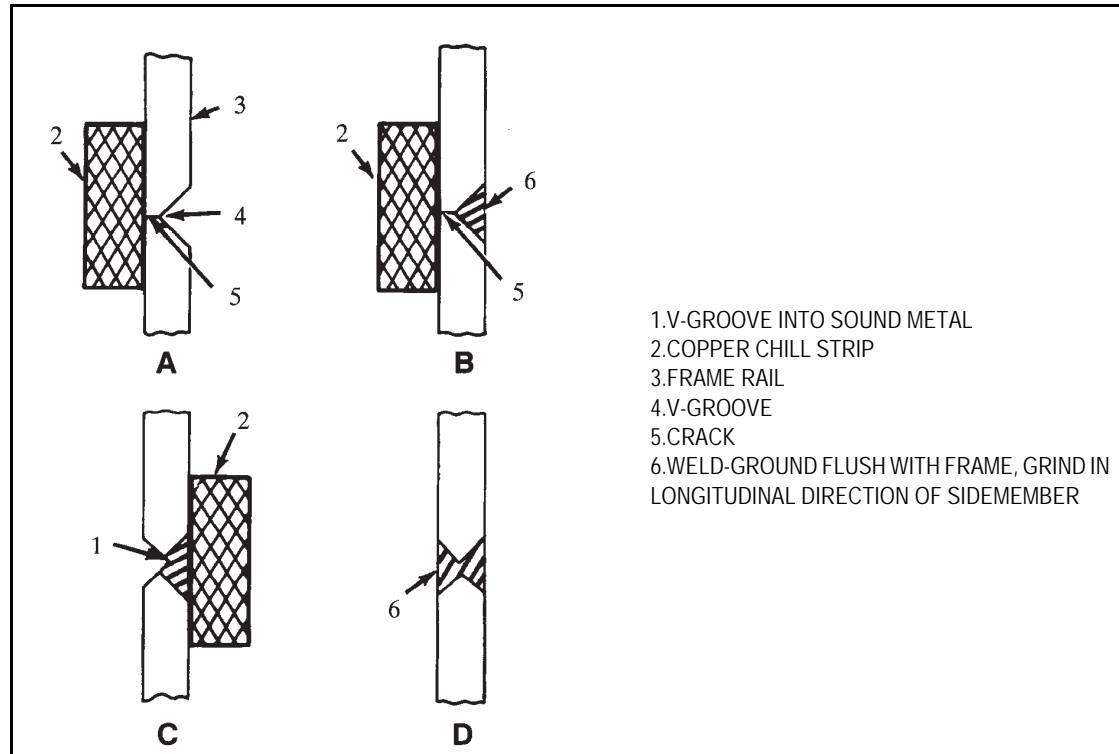

Figure 2.3 Use of Chill Strip
5. Grind smooth and flush with surrounding sidemember material. Grind the weld in a direction that is 90° to crack direction (Figure 2.3 D).
The SMAW and the GMAW methods are preferred for welding the HSLA frames. The use of low hydrogen electrodes is recommended. Refer to Table 2.1 for selection of recommended electrodes and wires, or refer to A.W.S. A.5 standard available from www.aws.org for equivalent strength electrodes, wires or rods and power leads to be used in the welding methods. The double V-notch weld preparation using the weld procedure shown in Figure 2.3 D is the preferred welding method.
10. Grind smooth and flush with surrounding sidemember material. Grind the weld in a direction that is at 90° to crack direction (Figure 2.3 D).
A heavy copper “chill” strip should be clamped to the rail side away from the groove to help control the temperature and cooling rate during welding (Figure 2.3). Short lengths of discarded heavy copper electrical bus bars make suitable chill strips.
Slag should be removed after each pass and an interpass temperature of 200° F (93° C) should be maintained. Grind smooth and flush with surrounding sidemember material, in a direction that is parallel to the longitudinal axis of the sidemember (Figure 2.3 D).
A V-groove is ground from the side opposite the repair and the procedure outlined above repeated. “Chill” strips should be used whenever possible. The V-groove ground on the opposite side of the repair should be deep enough to enter the sound metal of the first weld repair as shown in Figure 2.3 C.